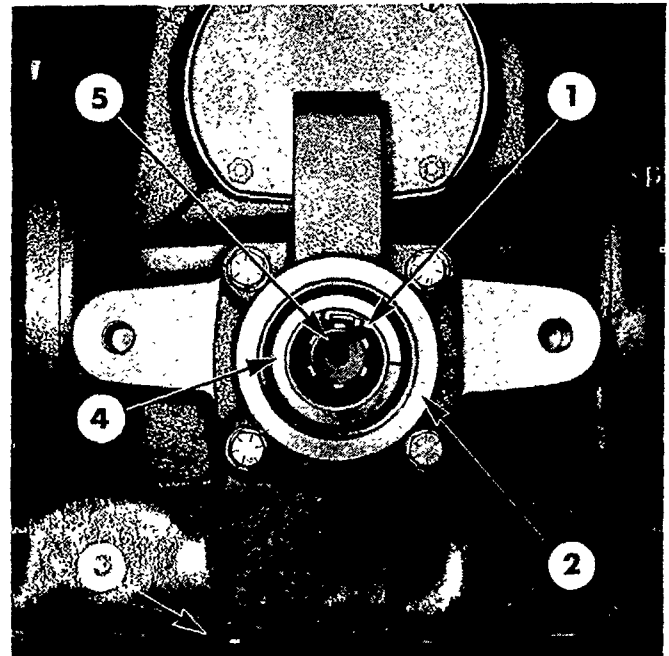

Figure 14
2. Remove the P.T.O. output shaft cap, then remove the retaining ring, Figure 14.